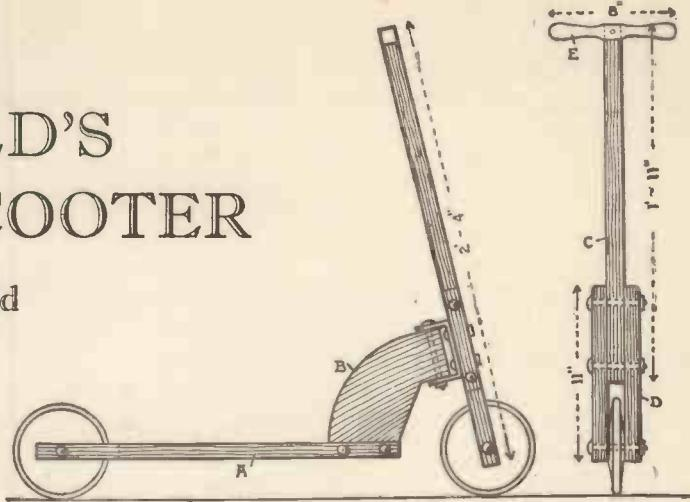

Fig. 1.—A Side and Front Elevation of the Scooter.
**Material and Method of Construction.**—For a toy of this kind hardwood is essential, and suitable kinds are birch, elm, ash, or oak, not less than 1 in. thick. The scooter, side and front elevations of which are shown at Fig. 1, is made with a running-board (A), to the front end of which a neck piece (B) is fitted. The steering-handle and front fork is made with a centre shaft (C), the fork for the front wheel being formed by bolting two extension pieces (D), one on each side of the centre shaft at the bottom end, and the steering-handle (E) is mortised to the top end. The steering-handle and fork is pivoted to the neck piece by means of an iron jaw piece and long bolt, the jaw piece being bolted to the handle and fork, and the long bolt passes through the neck piece.